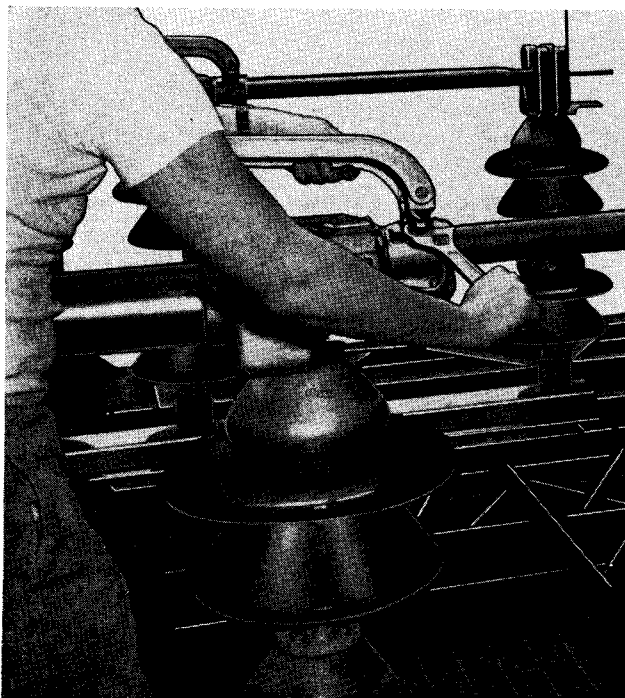

Fig. 8.
(I) The complete switch should now be operated by means of the handle at ground level. The three blades should open to a vertical position against the stops. When the switch closes, the blades should enter the jaws and rotate to a final position within plus or minus five degrees from horizontal. If one or two of the blade tips do not turn over far enough to come within the ± 5 degrees tolerances, the following adjustment can be made. Refer to Fig. 8. Loosen the two bolts at the pivot end of the blade. The blade can then be rotated about its axis a few degrees in either direction. After making this adjustment, tighten these two bolts securely.